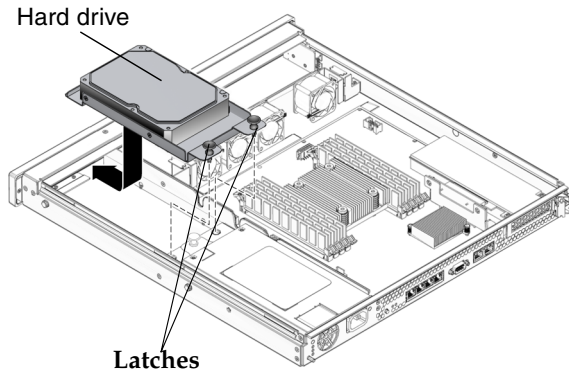

FIGURE 3-10 Replacing the Hard Drive
2. Slide the hard drive and tray assembly into the chassis until it mates with the front of the chassis (FIGURE 3-10).